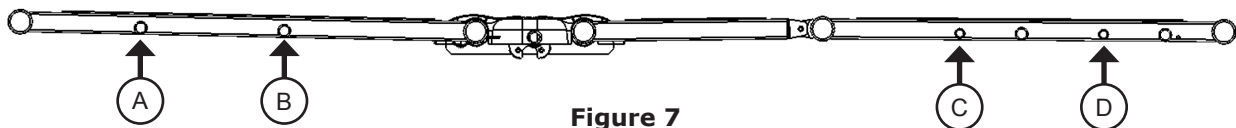
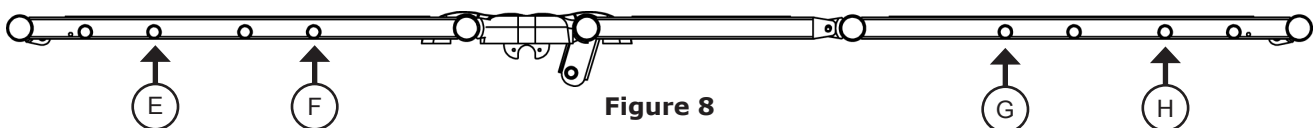

Figure 7
Figure 8
2. Place the bushings (Item 3) in holes A, B, C, and D for 80" bed (Figure 7) and in holes E, F, G, and H for 76" bed (Figure 8).